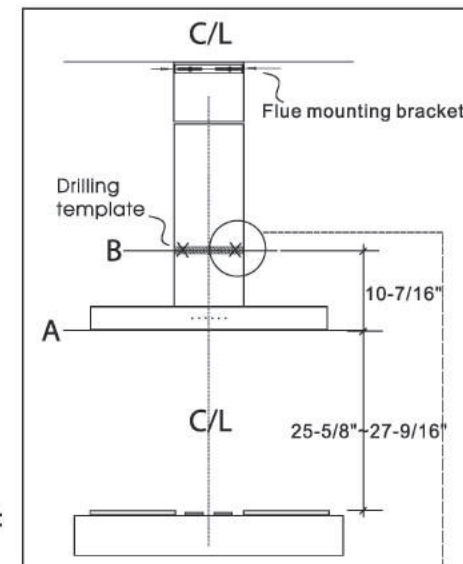

Fig.6-1
6. Mark a line "B" (10-7/16" from a line "A"). (Fig.6-1)